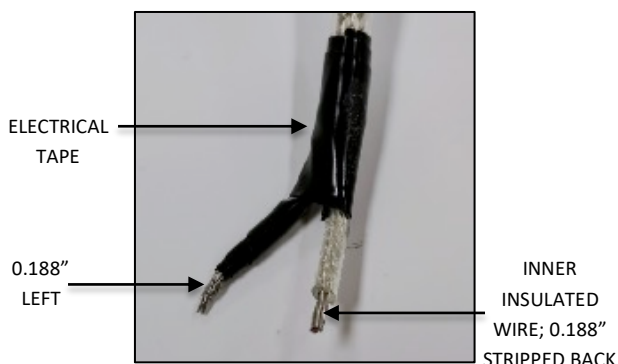
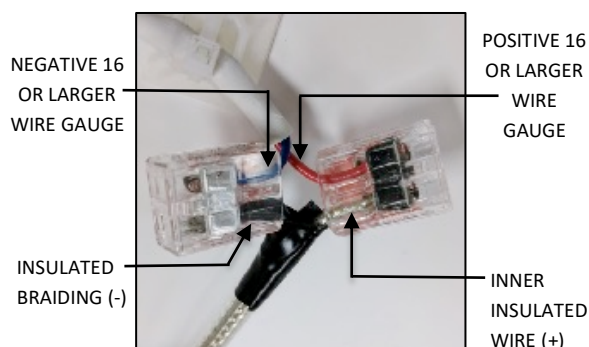

FIG. 43
FIG. 44
- Using electrical tape, insulate the twisted strands leaving 0.188" exposed for connections. Strip off 0.188" of the inner insulation as you normally would for 18AWG stranded core wire as shown in FIG. 43 below. Connect the inner insulated wire (+) to the positive 16 gauge or larger wire ran in step 5 at the hanging bracket and Connect the outer braiding (-) to the negative 16 gauge or larger wire ran in step 5 at the hanging bracket FIG. 44 below.